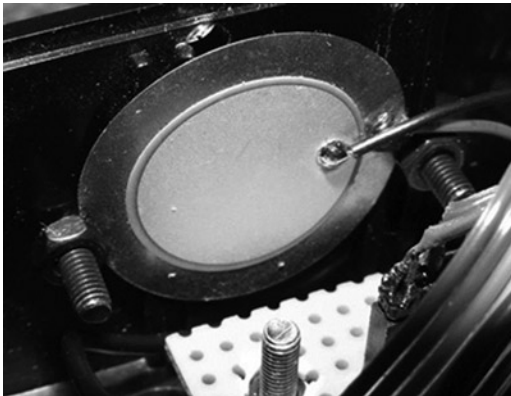

Figure 11-14. *Detail showing the piezo mount*
- The piezo electric speaker is held onto the side of the control box by two small bolts (see Figure 11-14). This results in a maximum loudness from it. You could drill a cluster of small holes in the box side to let more sound out, as I did, but I didn't find that made much difference in the end.